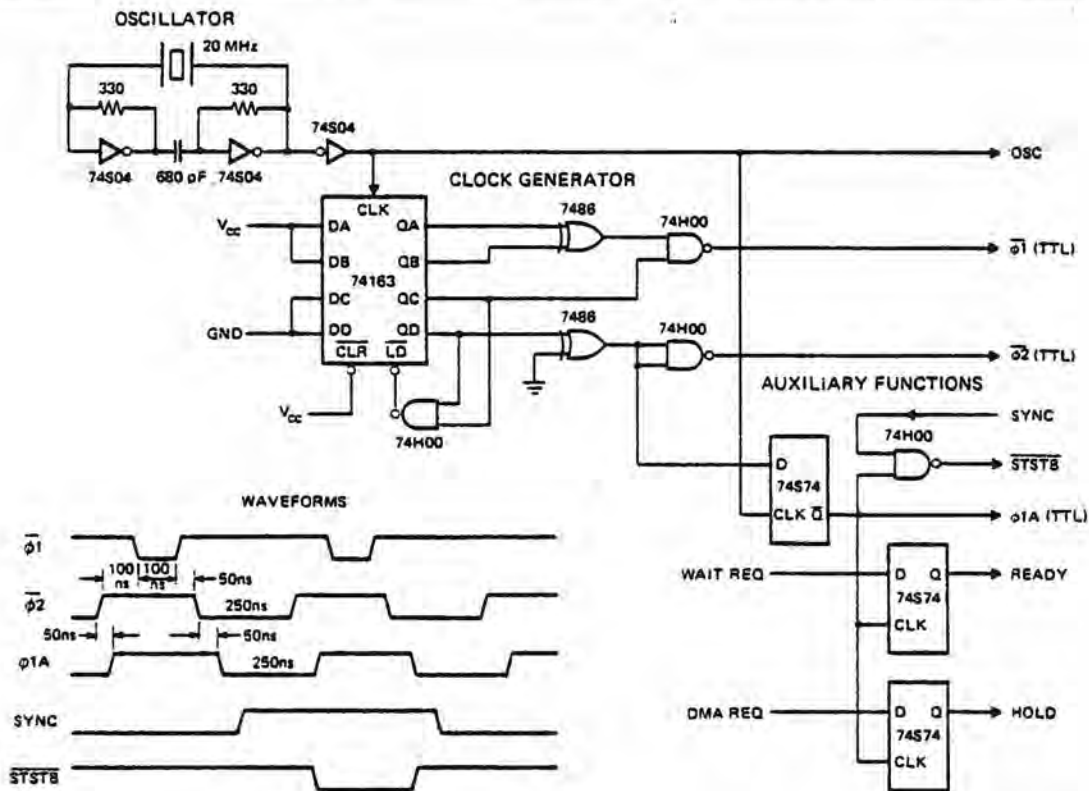

Figure 3-3. 8080 Clock Generator
The oscillator provides a 20 MHz signal to the input of a four (4) bit, presettable, synchronous, binary counter. By presetting the counter as shown in figure 3-3 and clocking it with the 20 MHz signal, a simple decoding of the counters outputs using standard TTL gates, provides proper timing for the two (2) 8080 clock inputs.
The Clock Generator diagram also shows how to generate an advanced timing signal ( $\phi 1A$ ) that is handy to use in clocking "D" type flipflops to synchronize external requests. It can also be used to generate a strobe (STSTB) that is the latching signal for the status information which is available on the Data Bus at the beginning of each machine cycle. A simple gating of the SYNC signal from the 8080 and the advanced ( $\phi 1A$ ) will do the job. See Figure 3-3.